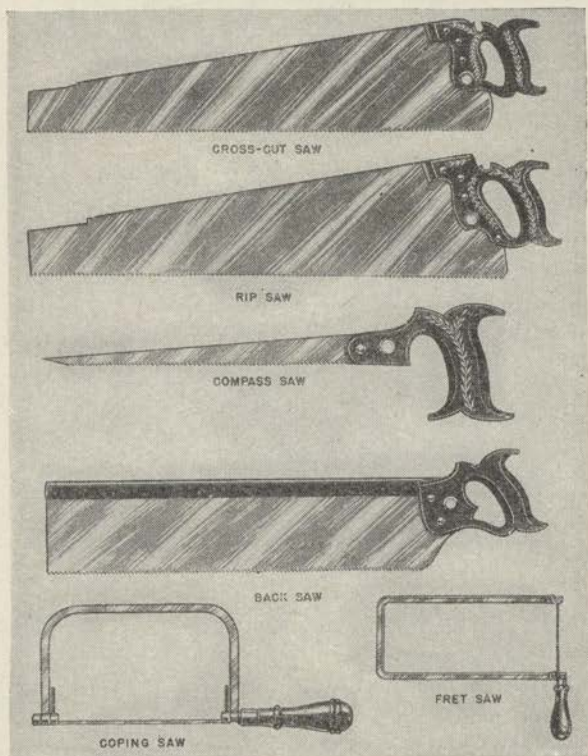
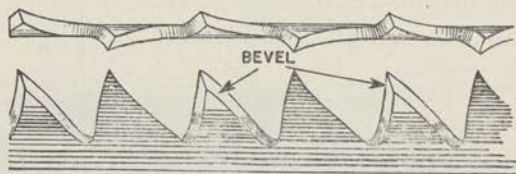
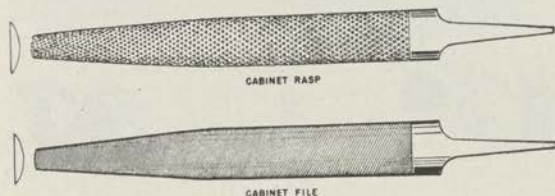

FIGURE 27.—Common hand saws.
FIGURE 28.—Crosscut teeth (enlarged view).
FIGURE 51.—Cabinet rasp and file.
saws (fig. 27), but all are classified as "crosscut" saws or "ripsaws." A crosscut saw cuts across the grain and a rip saw cuts with the grain. On a crosscut saw the teeth are filed on alternate sides, producing beveled cutting edges like a series of little knives (fig. 28). On a rip saw, each tooth is filed straight across the face to a sharp square
distance the teeth extend beyond the surface of the blade; the teeth are bent to alternate sides (see figs. 28 and 29).
(3) For work in confined space and for curved cuts, use a compass or keyhole saw (fig. 27), starting the cut in a hole bored with the brace and bit. Several different sized blades can be used in the same handle. For more intricate work, "coping" and "fret" saws are used.
k. *Rasp and file.*—The half-round cabinet rasp and file (fig. 51) are generally used for cutting away or smoothing wood or for finishing the rough edge left in a hole cut with the keyhole saw (fig. 27). Use